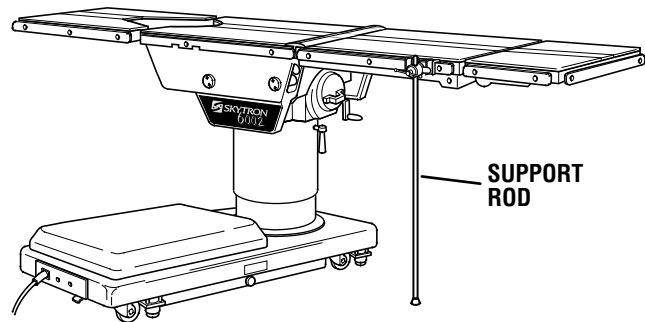

Figure 3-16. 90 Degree Top Rotation
b. The use of the optional support rod allows the table top to be rotated 90° from the base. See figure 3-16.